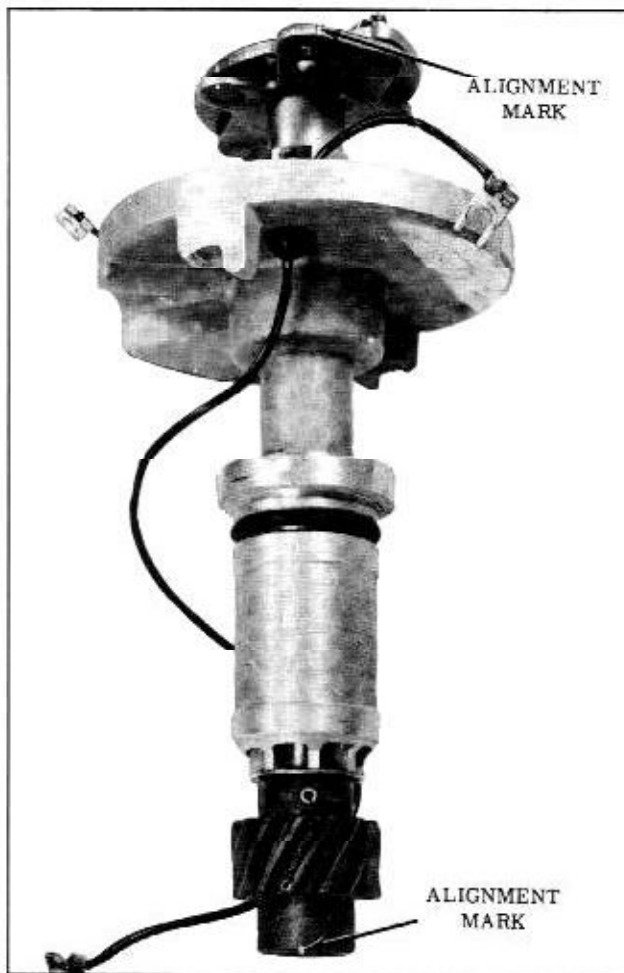

Fig. 13-70 Distributor Shaft and Gear
1. With distributor cap and rotor removed, mark the distributor gear and the distributor shaft at the centrifugal advance mechanism so that they may be reassembled in the same position. (Fig. 13-70)